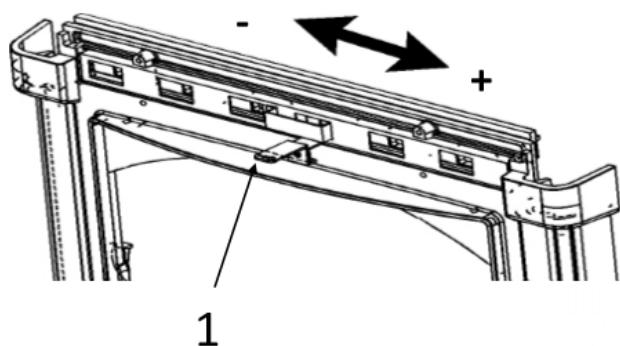
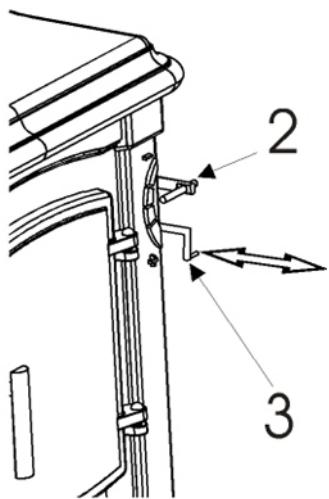

Fig. 4
Fig. 5
3. Open air wash control n° 1 (Fig. 4), leave the stove door slightly ajar, open thermostat n°.2 (Fig. 5) and open the direct draught damper n° 3 (Fig. 5) to warm the chimney (pull the handle to the right)
4. After about 10 minutes (more time for poorly drawing chimneys) when combustion is well under way, close the direct draught damper (3) (push the handle to the left) close the thermostat n° 2.